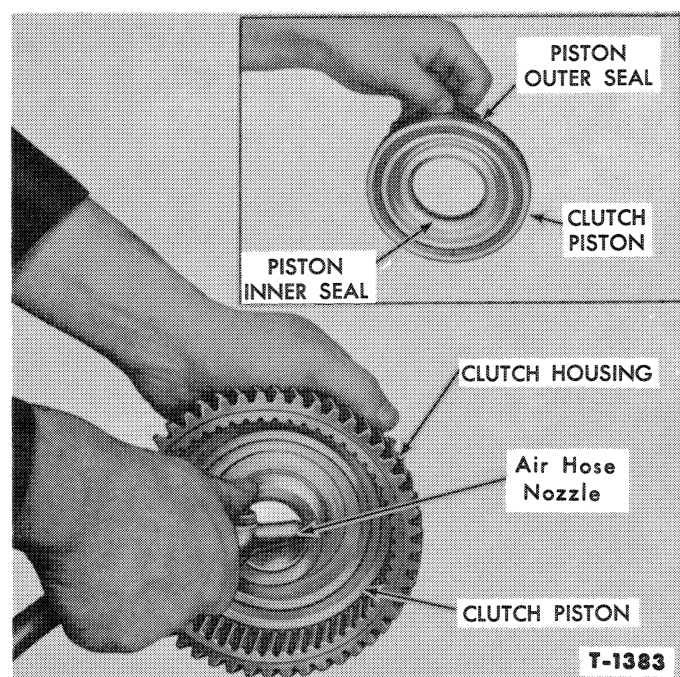

Figure 117—Clutch Piston Removal
4. Place an air hose nozzle in the hole in the hub, as shown in Figure 117, and force the piston out of the clutch housing with air pressure.
5. Remove the piston inner and outer seals, shown in the insert, Figure 117.